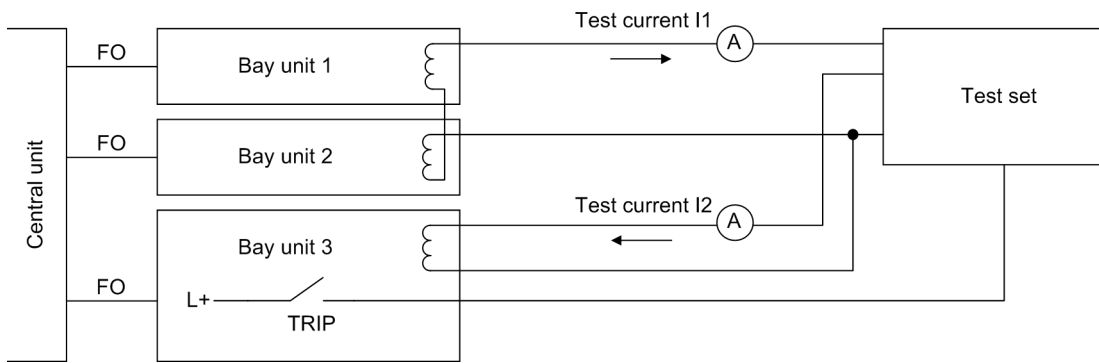

Figure 7-13 Test setup for the trip characteristic of the check zone.
The test setup for the check zone is shown in Figure 7-13, page 312. When the bus selectivity is checked switch one or more bays on a second bus (possibly by a feeder position simulation)
- Connect the current inputs of these bay units back to back (see Figure 7-13, page 312). Connect bay 3 to a different bus.